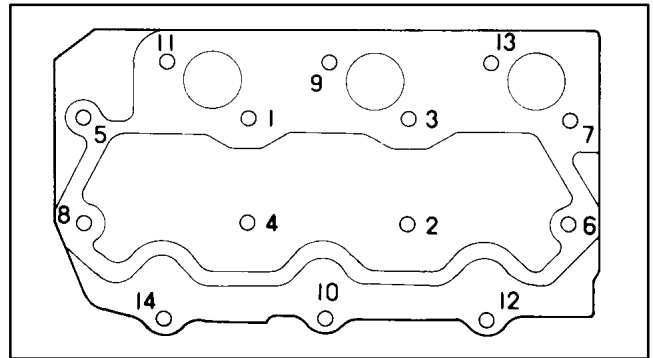

Figure 23
2. Torque head bolts from 25 to 29 ft-lb (3.5 to 4.0 kg-m) using the sequence in Figure 23.